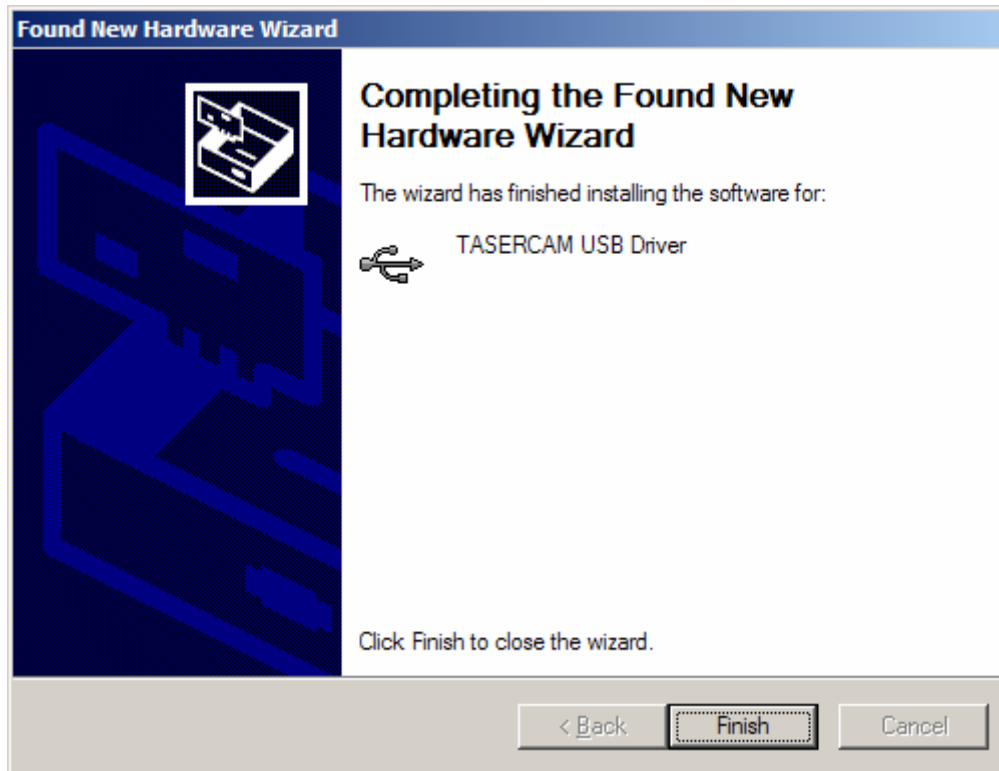

Figure 10
10. You should now see the following screen (Figure 10) indicating your hardware is installed and ready to be used. Click **Finish** and follow the *TASER CAM Downloading* instructions below to continue the TASER CAM download.